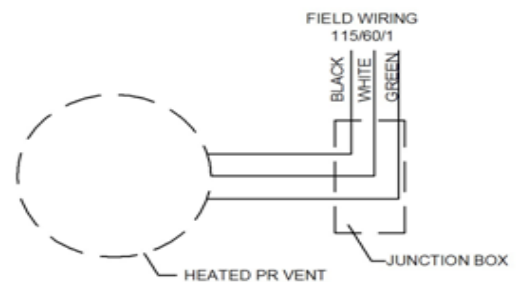

FIGURE 30 - HEATED PR VENT (WIRING DIAGRAM)
2. The electrical connection is made at the flush mounted field box next to the pressure relief vent (Refer to Figure 30).